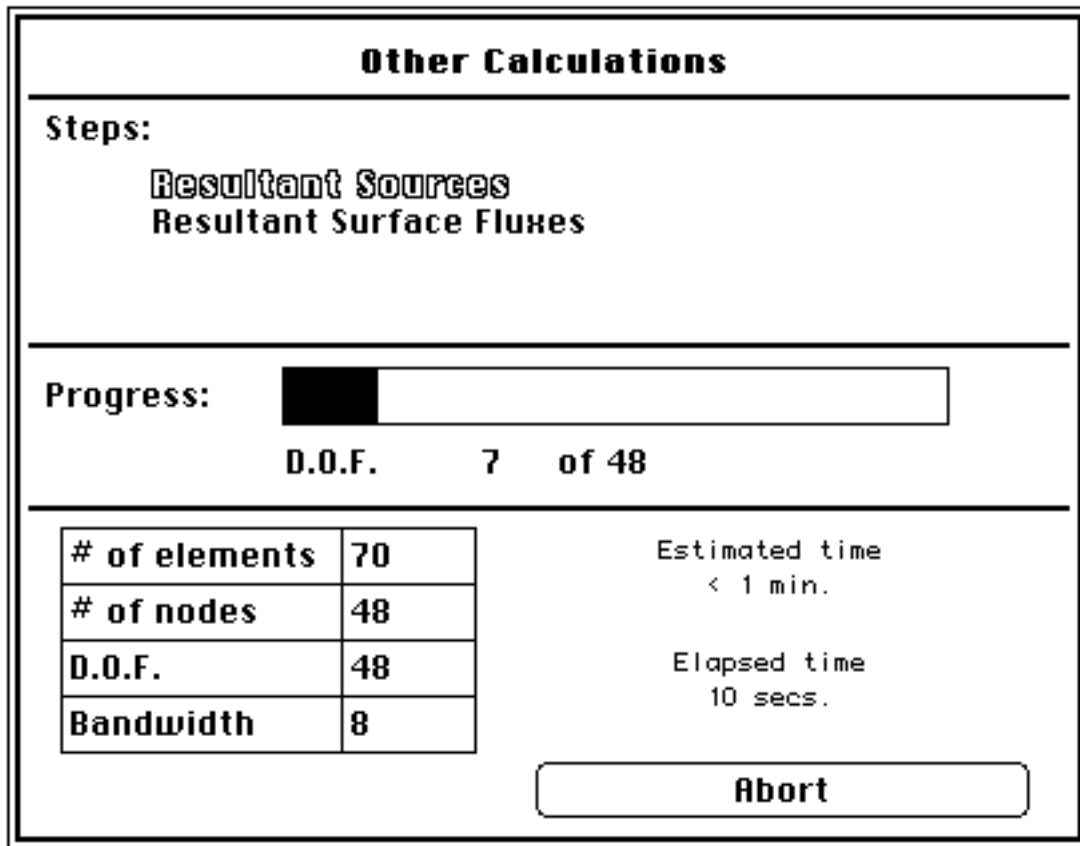

Fig 3.58 Other calculations progress indicator
You can interrupt computations at any time by clicking the Abort button (Fig 3.58). MP reports the elapsed time.
- Click OK (alias the Abort button in Fig 3.58) to return to the solve module menu.